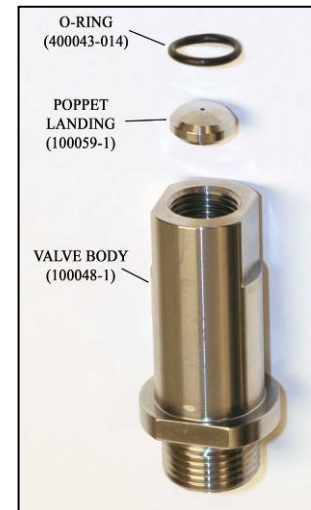

Figure 9
17. Apply a thin coat of Blue Goop (400001-1) to the Poppet Landing and insert in the outlet end of the Valve Body. Push the O-Ring (400043-014) into the groove to hold the Poppet Landing in place. **See Figure 9.**